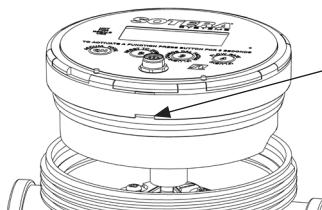

Figure 7
2. Unscrew meter cap (item 1, page 10). Use a strap type oil filter wrench or large 5" jaw pipe wrench if necessary.
3. Insert a flat-head screwdriver in the lower slot (see Figure 7) and turn to pry up meter cover (item 6).